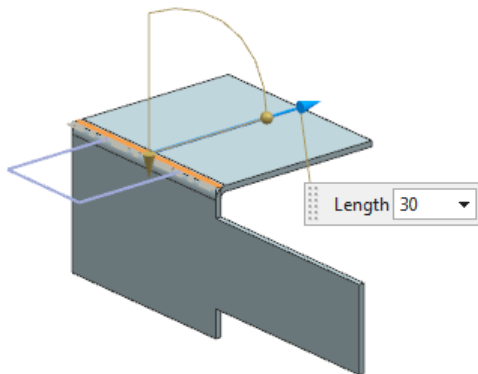

Figure 14-131 Preview of the top flange
2. Select the horizontal edge to create the flange, refer for Figure 14-131; the preview of the flange is displayed. Now, select the **At End** option from the **Width Option** drop-down list. Then, select the left endpoint of the top edge to locate the flange.
4. Enter **30** in the **Length** edit box of the **Flange Properties** rollout. Figure 14-131 shows the preview of the flange after modifying the width. Choose the **OK** button to create the flange.